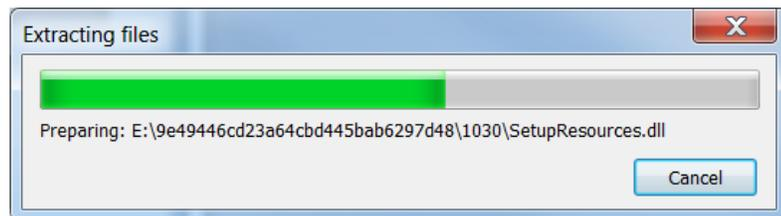

Figure 4-24. Extracting Files
12. During the installation process, some files are extracted, as shown in the example in Figure 4-24.